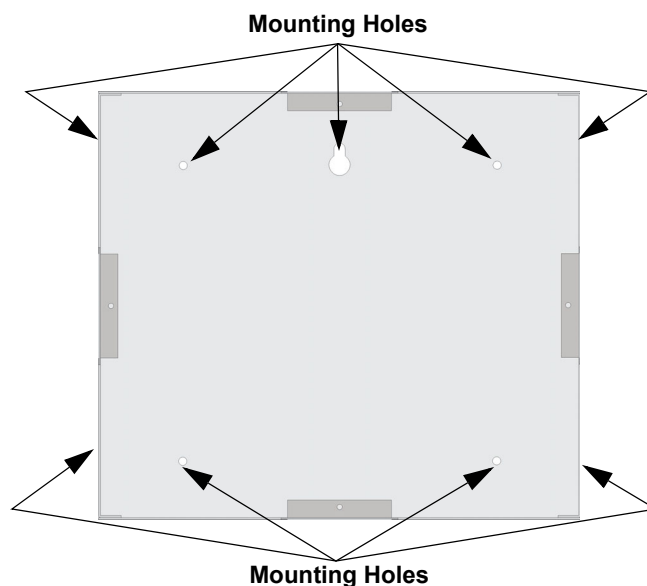

Figure 4.12 Back Box Mounting Holes
1. The back box dimensions are 9-9/32" w x 8-3/8" h. The minimum depth 2". The back box can be mounted prior to the complete installation of the 6855 using any of the mounting holes shown in Figure 4.12.
1. The back box dimensions are 9 1/4" W x 8 3/8" H. The minimum depth required is 2". The back box can be mounted prior to the complete installation of the 6860 using any of the mounting holes shown in Figure 4.12.